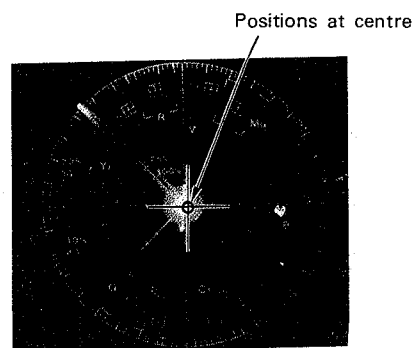

Fig. 4-14
- If the vector does not position at the centre of vectorscope, press **PG DN** key twice to return to (15)-B-1, and repeat above procedure until vector positions at the centre of vectorscope as shown in Fig. 4-14.